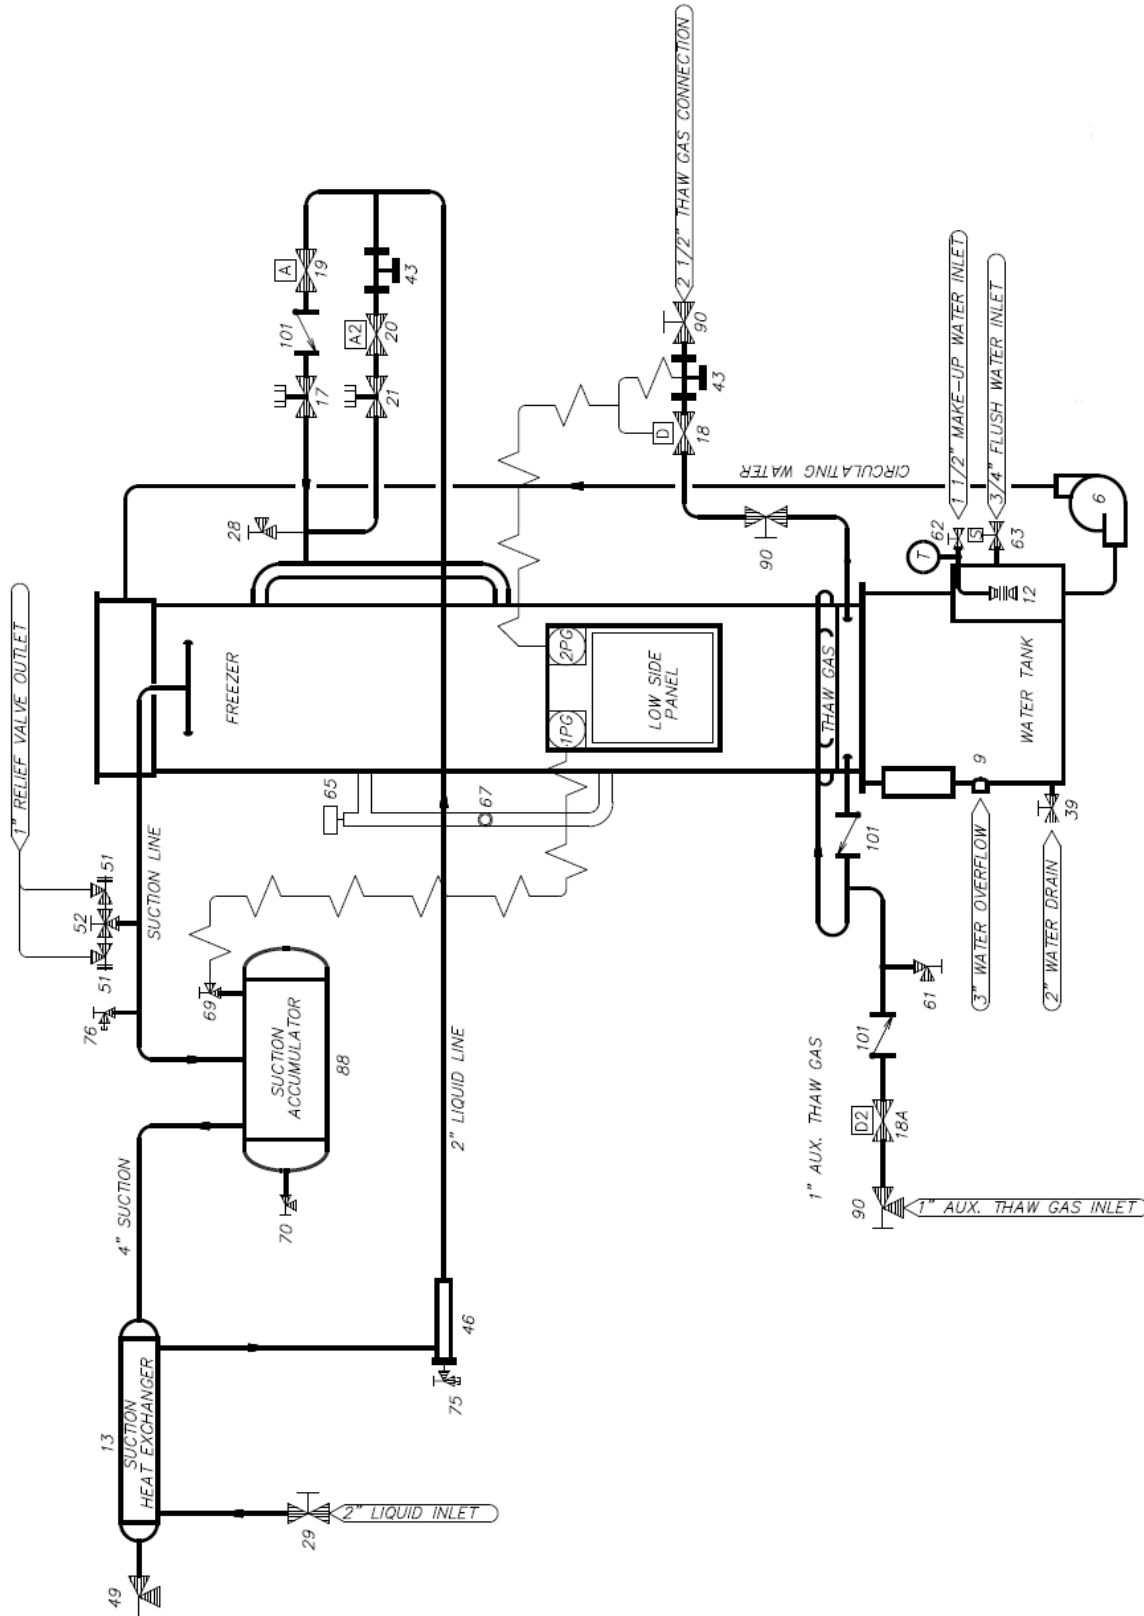

Figure 4-1
Operating Features. Your low side Tube-Ice[®] machine is an efficient ice producing plant. If installed and maintained properly, it will give many years of operation with a minimum amount of repairs. Refer to piping schematic, Figure 4-1, to identify component parts while following the information and instructions in this manual.
Refrigeration System Review. The refrigeration system uses R-404A refrigerant. Following the piping schematic (Figure 4-1), you will see that during the machine's freeze cycle, the compressor discharge gas goes through the oil separator to remove any oil present in the discharge gas and return the oil to the compressor crankcase. It is then discharged into the condenser and condensed into a liquid by the removal of heat by water passing through the condenser tubes. A reservoir of liquid refrigerant is accumulated in the receiver and is required for thawing purposes (see Table 3-2). Liquid from the receiver flows through the filter drier (46), and the heat exchanger (13), to the "A" solenoid valve (20A), which opens and closes by action of the capacitive level probe (65). The liquid is then expanded through the hand expansion valve (17) and into the evaporator (2) (freezer). The cold, wet refrigerant floods the evaporator and is in contact with the outside of the ice making tubes through which water is being circulated. The heat contained in the water passes through the wall of the tubes, lowering the temperature of the water, causing it to freeze and to form a long tube of ice that adheres to the inside of freezer tubes. Since the purest water freezes first, the circulating water continues to wash the dissolved solids down into the sump area of the water tank. The flushing valve (63) helps to rid the water tank of increased dissolved solids by flushing them out the overflow during the harvest (thawing) period.